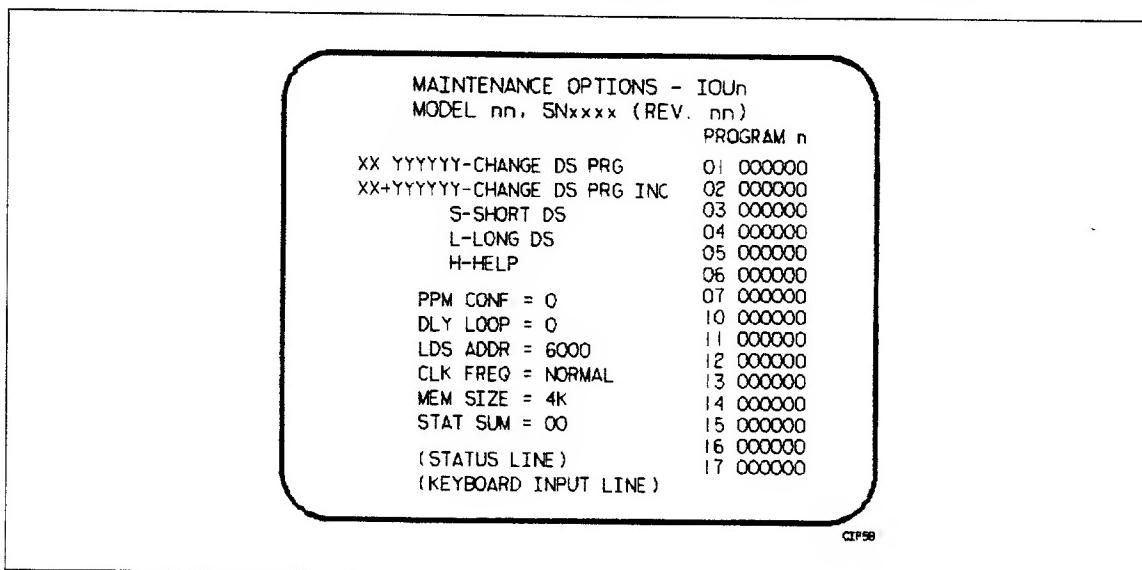

Figure 3-6. Maintenance Options - IOU0/IOU1 Display (Dual IOU Systems)
- b. Type **0** to bring up the MAINTENANCE OPTIONS - IOU0 display or **1** to bring up the MAINTENANCE OPTIONS - IOU1 display.⁴ Refer to figure 3-6.